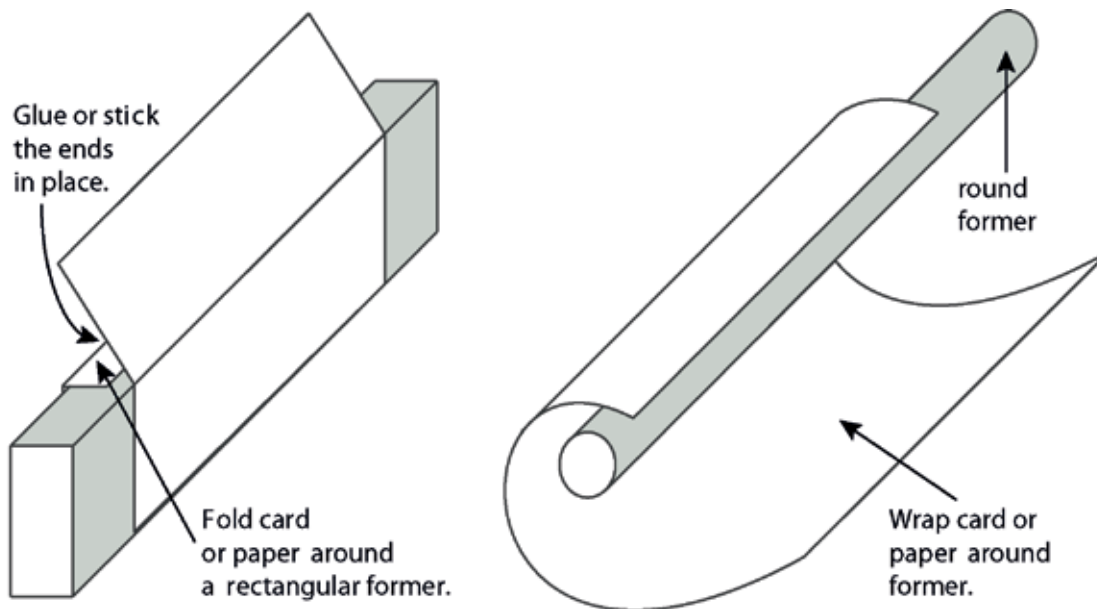

Figure 7: How to make the steel columns
You can make your steel columns using cardboard. Look at Figure 7 to help you. You can make round or rectangular columns depending on the **former** you use:
1. Choose how you will make your columns and then make all the pieces you will need for your model. Have another look at Figure 7 to help you. (1)